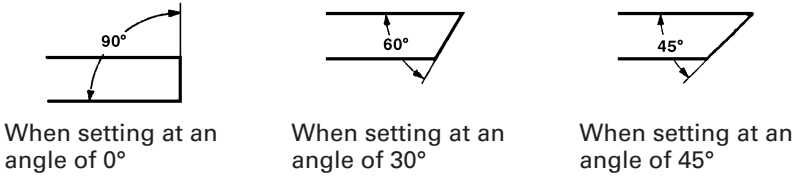

Fig. 7
4. Cutting at angles (Fig. 7 and 8).
Loosen the two M10 hexagon socket head bolts on the vise (B), then set the working surface on the vise-jaw at any angles of 0°, 30° or 45° as shown in Fig. 7. Upon completion of setting, securely tighten the two M10 hexagon socket head bolts, as shown in Fig. 8.